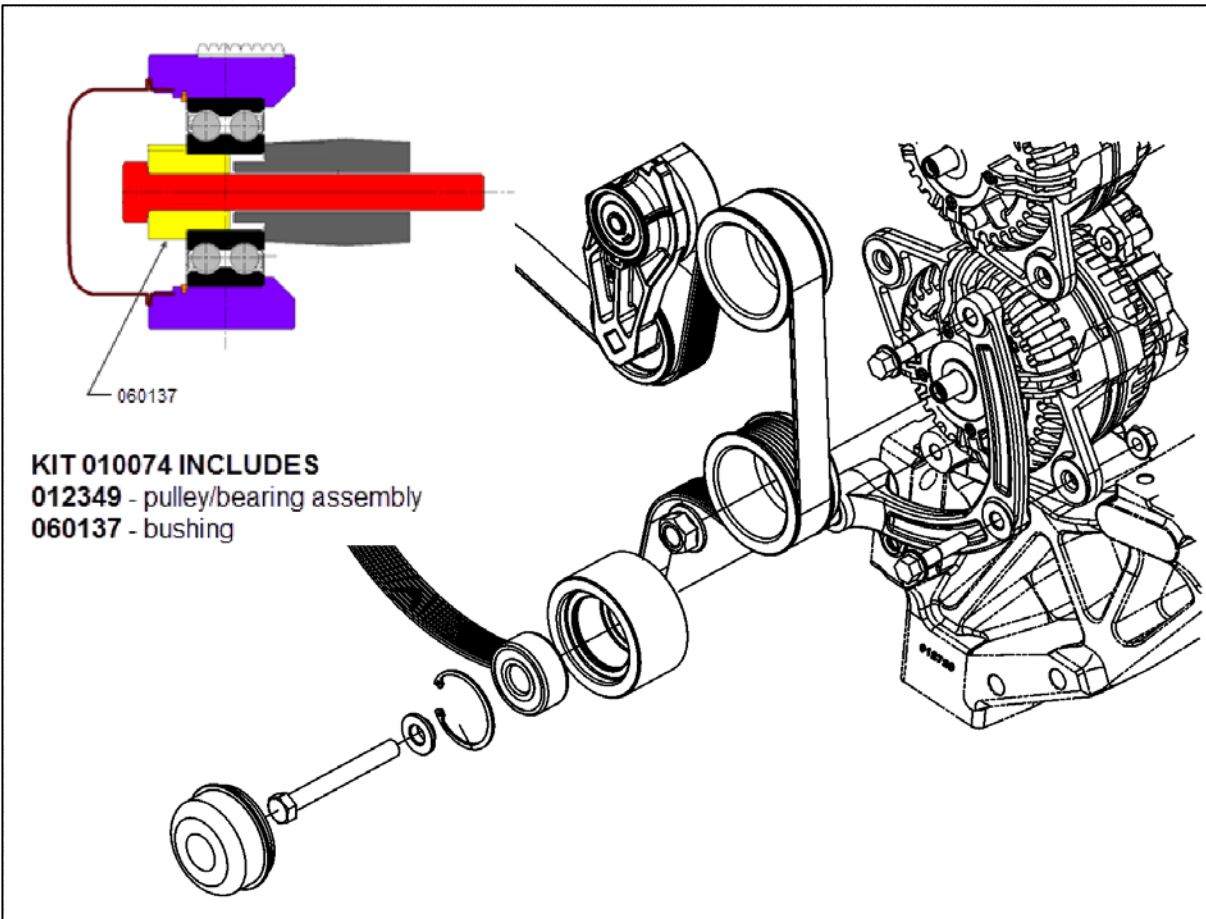
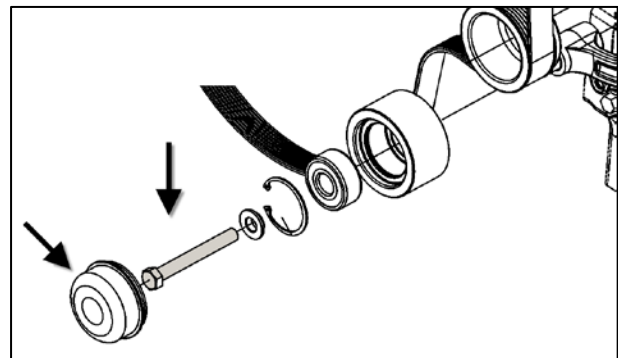

Figure 2: 010074 Idler Assembly Exploded View
Figure 4
8. Install the new idler assembly #450334 on the supplied idler & alternator bracket #21134692. (Figure 2, Figure 4)
9. Install dustcap. (Figure 4)